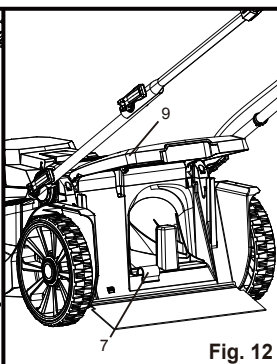
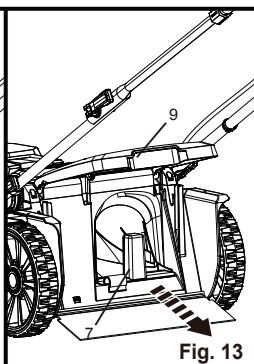

Fig. 12
Fig. 13
- Lift the safety flap (9) and detach the grass collection bag.
- Open the safety flap (9), hold it in position and insert the mulching plug into the rear discharge chute (Fig. 12). Ensure the locking button snaps into place, as picture shown (Fig. 13).